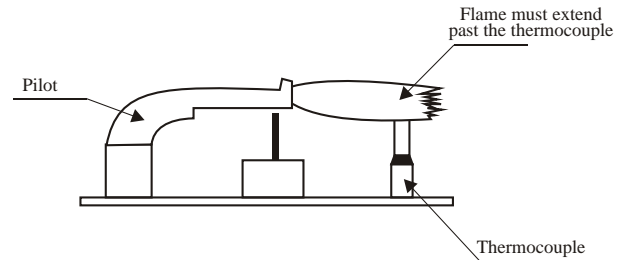

Figure 11
- While the main burner is **ON**, check the pilot and burner flames to see that they are burning a clean blue color. See Figures 11 and 12 for an approximation of the correct flame pattern. If your unit is not burning cleanly, or if you are not sure, turn the unit **OFF** and contact the gas supplier or call Empire Comfort Systems Inc..